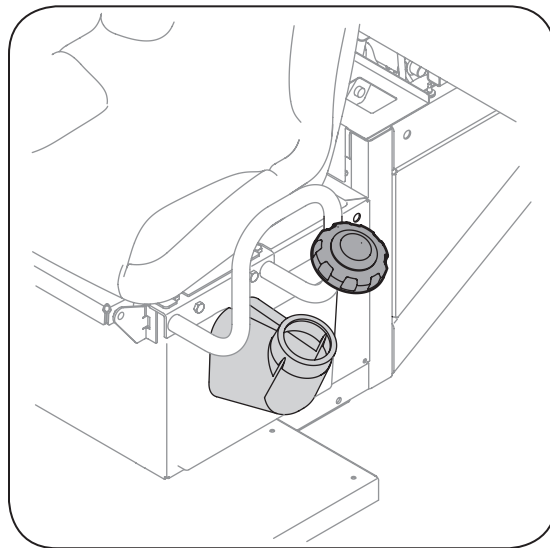

Figure 14
4. Clean area around fuel cap and remove cap. See Figure 14.